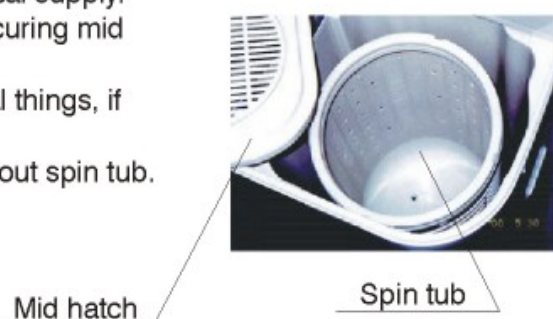

Figure 12
**To sweep abnormal things upon rotating shaft of spin tub** (see Figure 12)